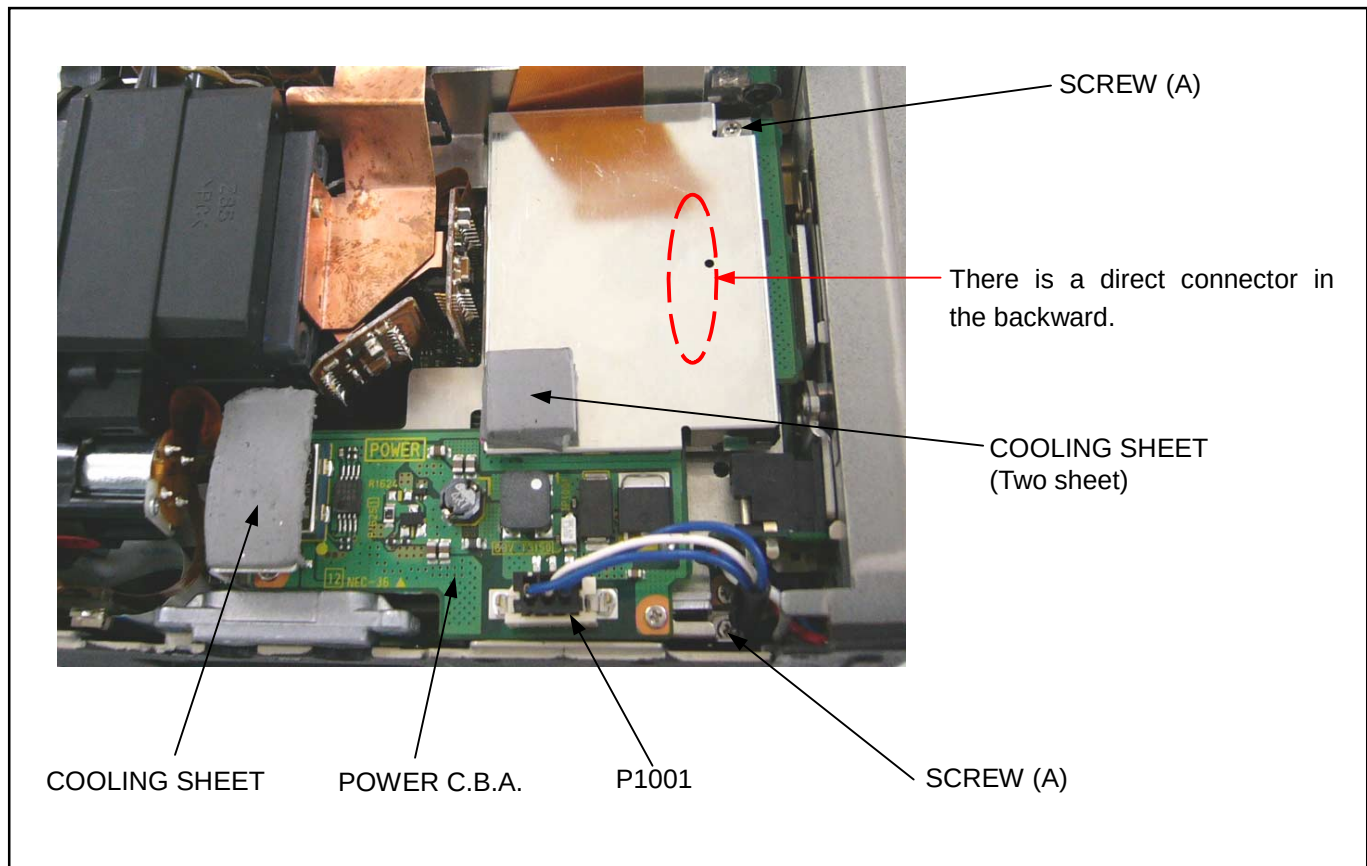

Figure 5-1
3. Disconnect a connector P1001 on POWER C.B.A. as shown in figure 5-1.
4. Unscrew the 2 screws (A) and remove the POWER C.B.A.. Be careful because the CAMERA C.B.A.(bottom side of POWER C.B.A.) and the connector in the POWER C.B.A are combining the one connector.
1. In case new POWER C.B.A. is installed, put the Cooling Sheet in following position as shown in figure 5-1.